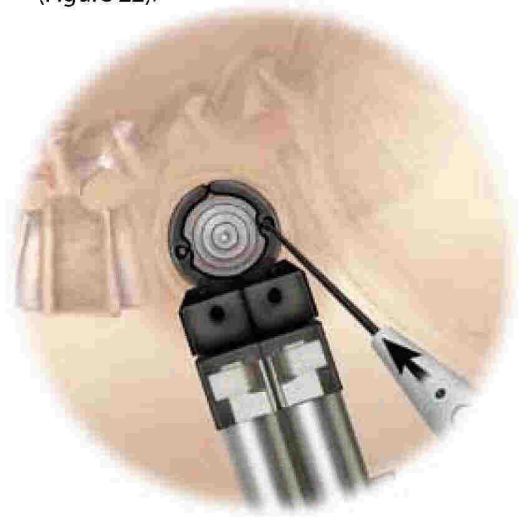

Figure 22
**Step 4** Use the NIM® Ball-tip Probe to test both Stability Pin channels of the Retractor Blades to ensure a nerve free pathway before placing a pin (Figure 22).